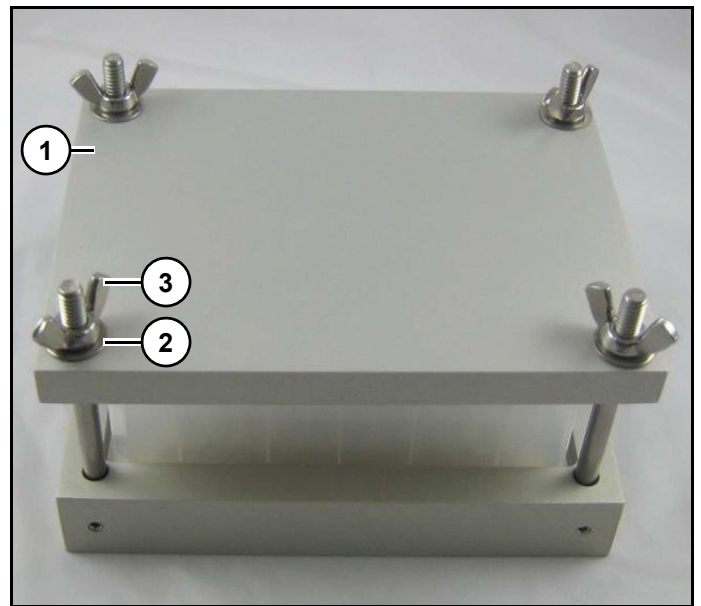

Figure 119
Refer to (Figure 119).
4. Place the silicone spacer mat (not shown) (Figure 119) (part # O-SIL-DPG) on top of sealed well plate.
5. Place deprotection chuck top (1) on top of entire assembly.
6. Secure top plate with washers (2) and wing nuts (3).